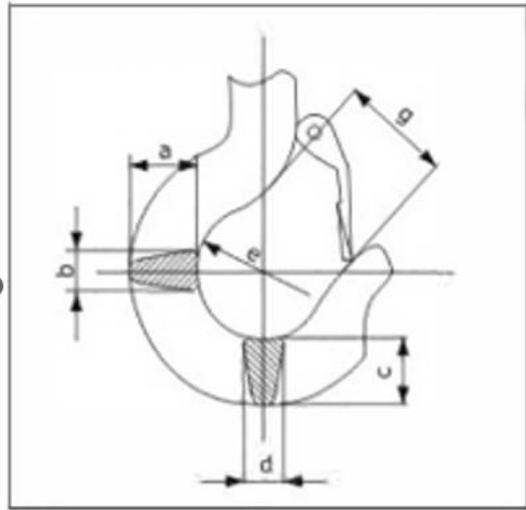

Figure 12.3.2.2
12.3.3 Inspect hoist hook assembly checking for any cracks or distortion of the hook body and/or excessive wear. If the measured dimensions are 5% or more out of specification the hook assembly needs replaced. See figure 12.3.2.2 and table below.